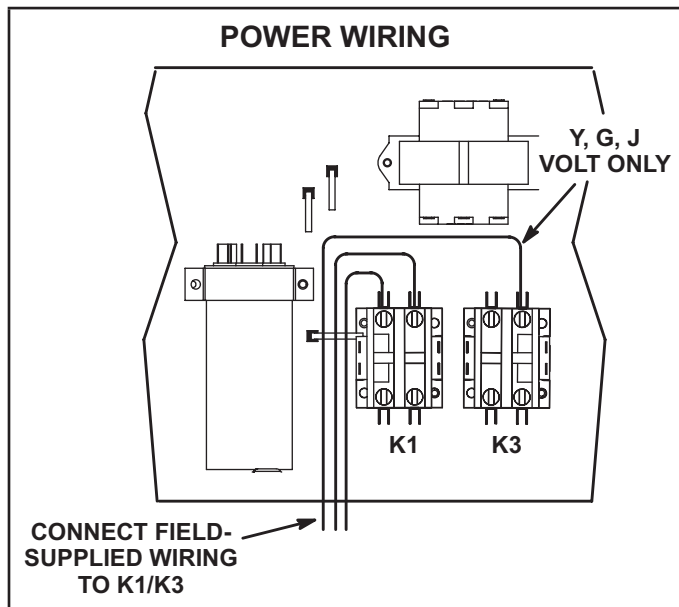

FIGURE 7
- 2 - Route power through the side or bottom power entry area. For bottom power entry, a bottom power entry kit must be used. Connect power wiring to K1/ K3 contactors in control box. See FIGURE 7. On units equipped with electric heat, route power wiring to TB2; see parts arrangement for location. See unit wiring diagram.